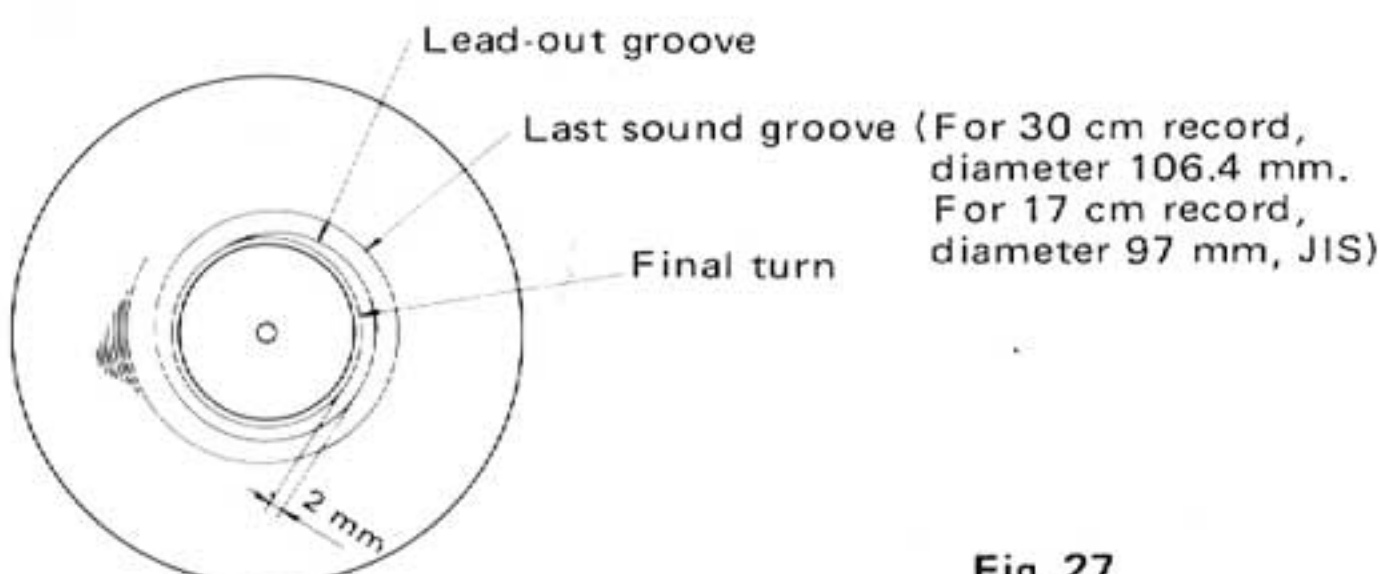

Fig. 27
- As shown in Fig. 27, if the tonearm is lifted and the stylus is detached from the lead-out groove approx. 2 mm away from the final turn, the automatic arm-lifting position is correct.